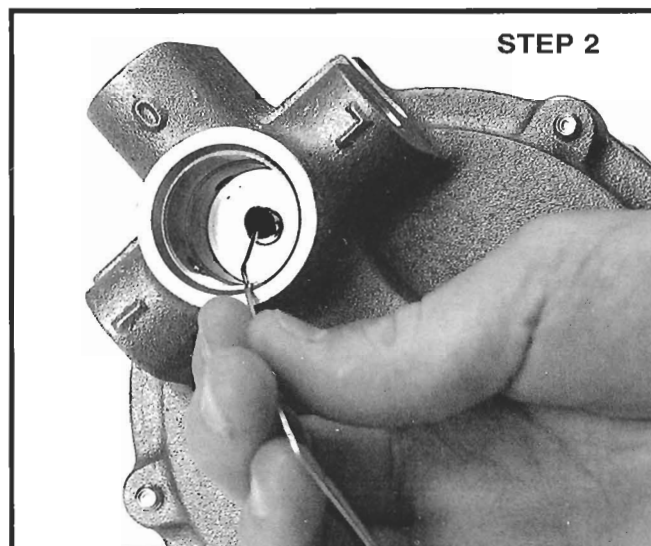

Figure 17. A paper clip easily pops the O-Ring out of the pilot body.
2. Remove the Stem O-ring from the pilot body using a suitable tool. **Be careful not to scratch the O-ring Groove** (refer to Figure 17).